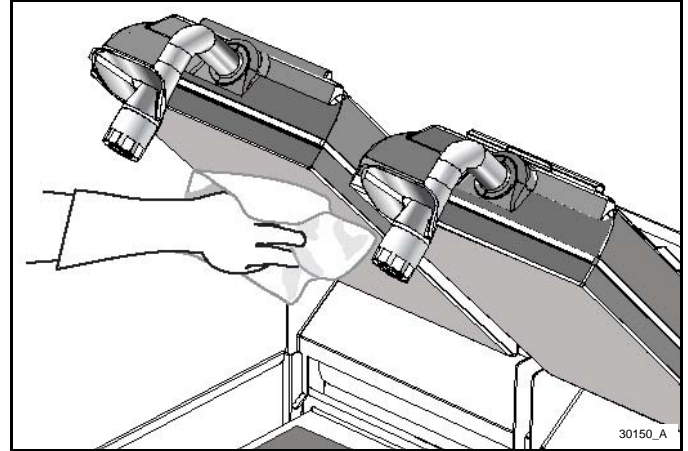

Figure-102
8. Use the sanitizer-soaked grill cloth to clean the exposed surfaces of the upper and lower release sheets. See Figure-102.